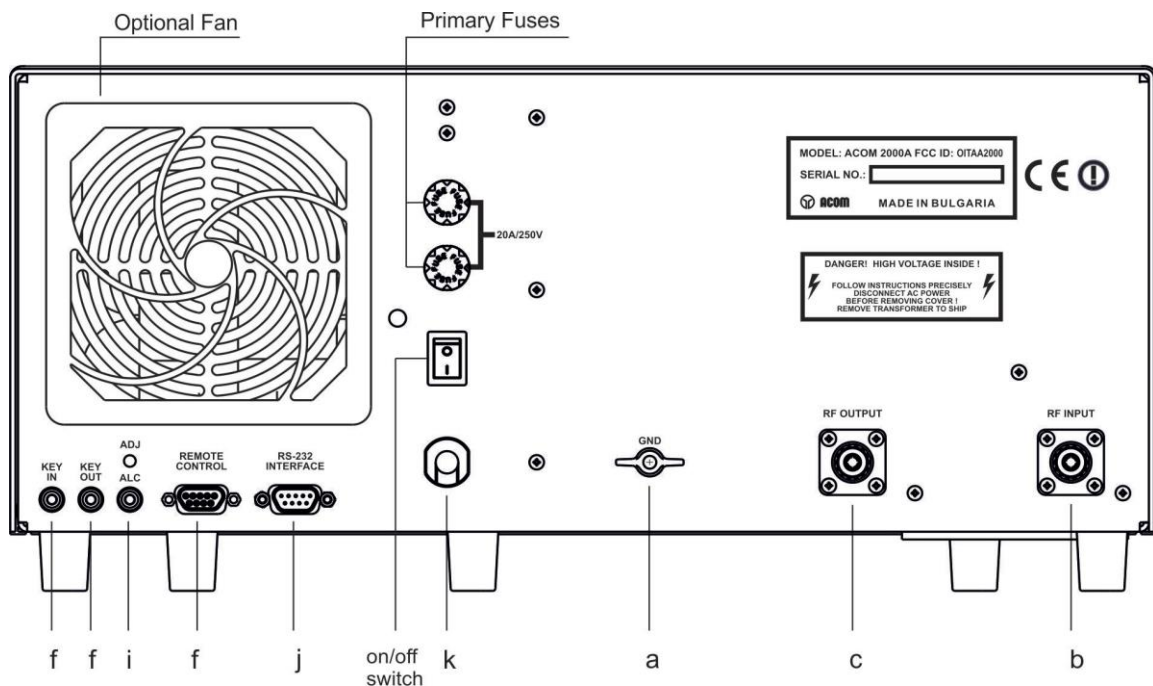
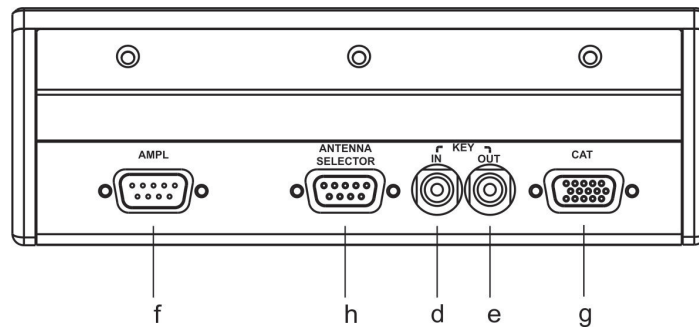
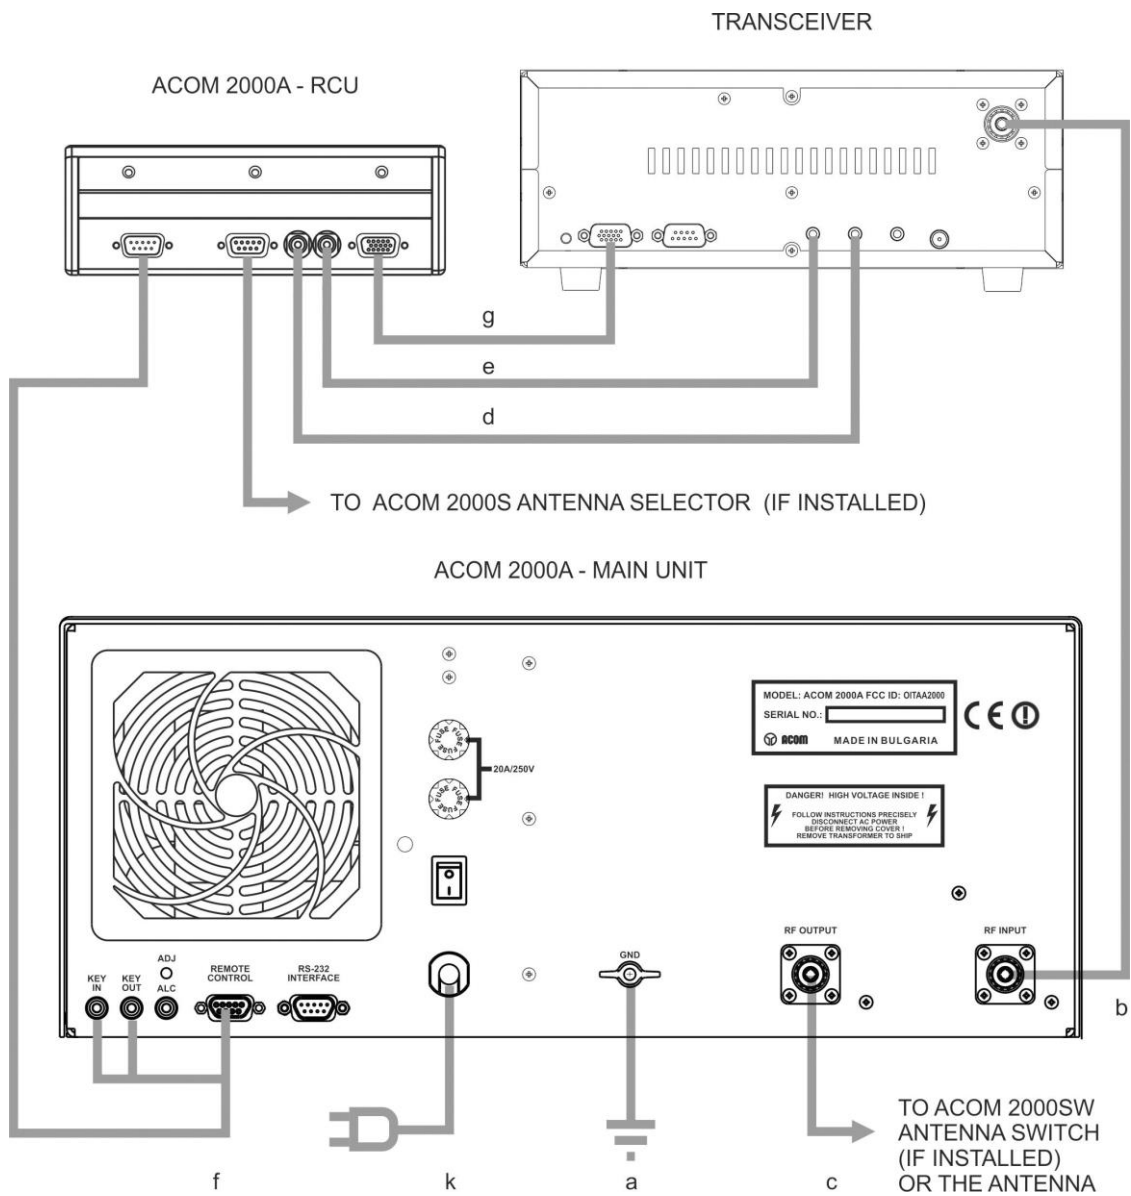
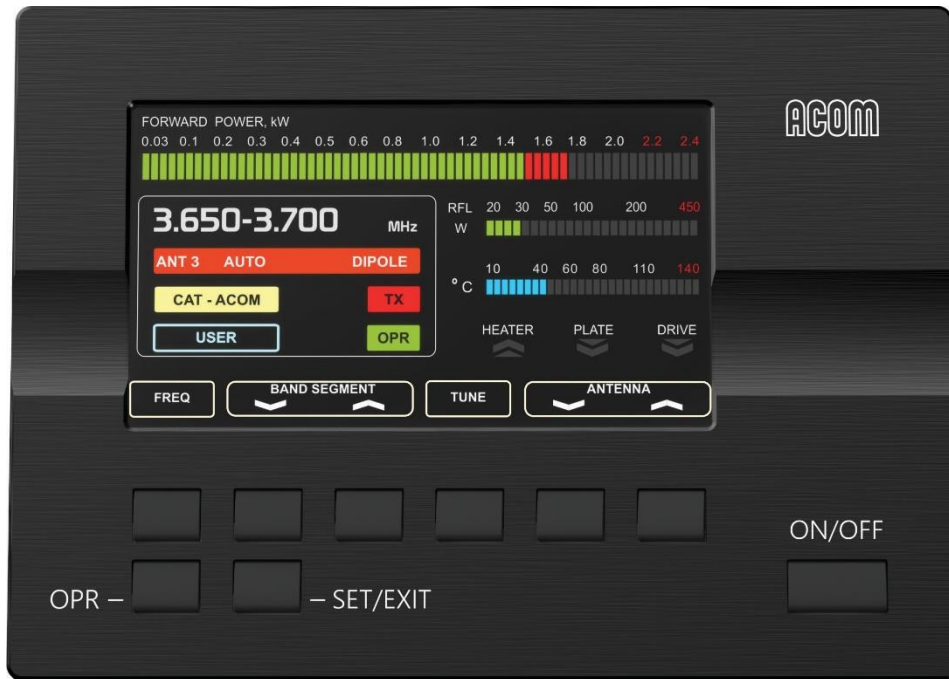

Figure 2-2 Amplifier Main Unit Connections
Figure 2-3 Amplifier Remote Control Unit Connections
Figure 2-4 Main Unit, RCU, Antenna Selector and Transceiver connections
Figure 3-1 Remote Control Unit (RCU)
- a) Connect the ground stud of the amplifier Main Unit (on the rear panel, marked GND) to the station's grounding system (see *Figure 2-2 Amplifier Main Unit Connections*, *Figure 2-3 Amplifier Remote Control Unit Connections* and *Figure 2-4 Main Unit, RCU, Antenna Selector and Transceiver connections*).
This fan is not necessary in SSB and CW modes, nor in continuous carrier modes (RTTY, SSTV etc.) with carrier down times of maximum 15 minutes and a subsequent pause of 3 minutes. For higher duties the fan is recommended. The auxiliary fan (119x119mm) is supplied as an option with a set of 8 screws, nuts and washers. It may be mounted by the manufacturer or dealer on request (see Figure 2-2 Amplifier Main Unit Connections). Contact your dealer or see the Technical Supplement for details.
After following all instructions in Section 2 *INSTALLATION*, you can turn ON the Main power switch on the rear panel (see *Figure 2-2 Amplifier Main Unit Connections*). The front-panel red indicator must light and a picture will appear on the RCU (see *Figure 3-1 Remote Control Unit (RCU)*):
Except for the main power switch on the rear panel, the amplifier is controlled via the RCU (see **Figure 3-1 Remote Control Unit (RCU)**). The amplifier is toggled ON or OFF by pressing the ON/OFF button. There are two more fixed function buttons located at the left bottom – the OPR button which is used to toggle between OPERATE and STANDBY (STB) modes, and the SET/EXIT button - to enter and exit the menus.
In order to turn on the amplifier, while the rear panel Switch (see Figure 2-2 Amplifier Main Unit Connections) is on, press the ON/OFF button on the RCU and hold it on for about one second and you will hear TEST being sent in CW.